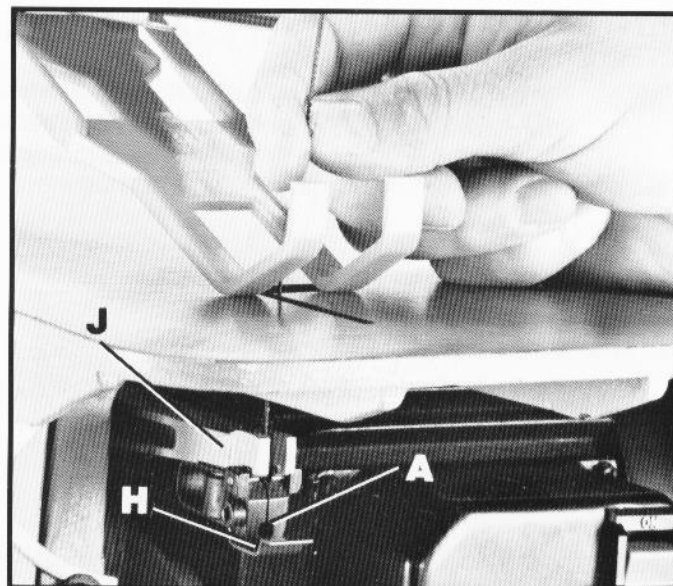

Fig. 25
7. Insert blade holder (A) Fig. 25, with blade attached, down through opening in table and into clip (H) in lower rocker arm (J) as shown. **NOTE: BLADE TEETH SHOULD BE POINTING DOWN.**